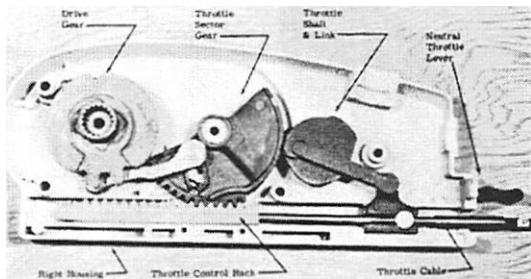

Figure 1. Throttle Sector, C-29564-S Cables
2. Remove screws in 2 rack-retaining plates and one cable-retaining plate and lift plates off. (Figures 1 thru-3)
1. With throttle control rack set in full throttle position, engage last tooth of throttle sector in last tooth space of nylon rack. (Figure 1)